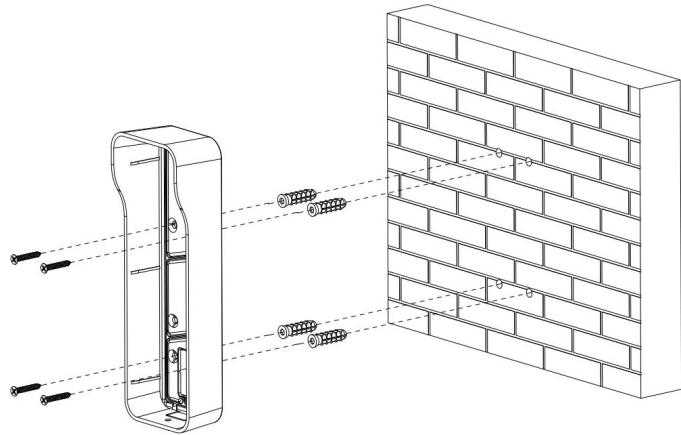
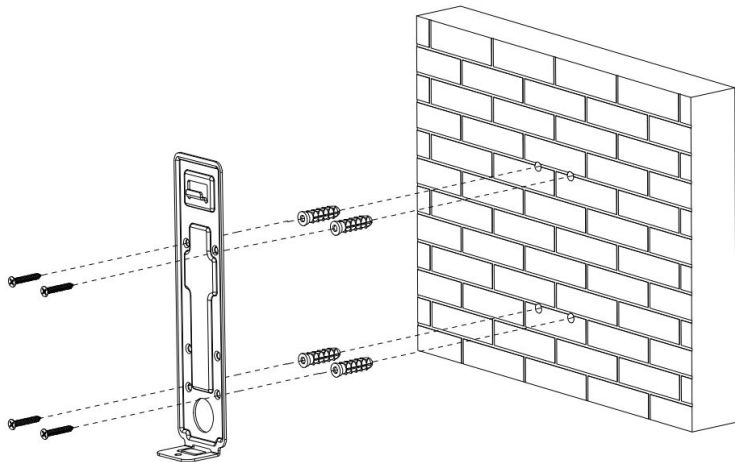

Figure 2-1 (Sun Shade Mount)
Figure 2-2 (Standard Mount)
Step 1 Use the included holes in the back of the mount to drill the appropriate mounting holes and cable exit. Install the expansion screws first, then place the mount on the installation surface. Screw in the installation screws to hold the mount to the installation surface. See Figure 2-1 for the **Sun Shade Mount** and Figure 2-2 for **Standard Mount**.